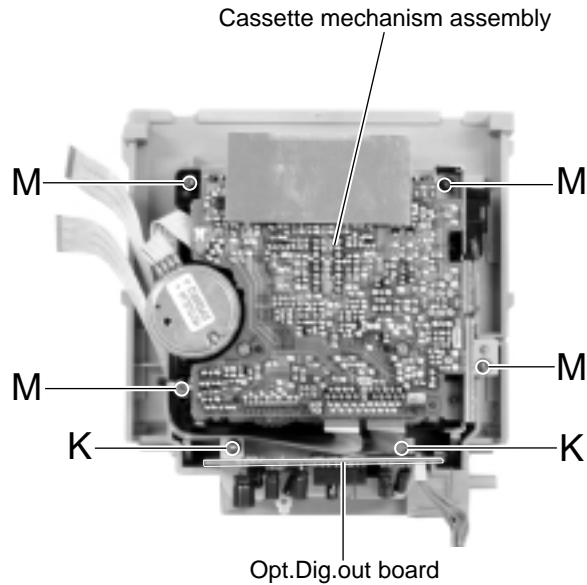

Fig.17
■ Removing the Opt.Dig.out board (See Fig.17 and 18)
■ Removing the cassette mechanism assembly (See Fig.17 and 19)